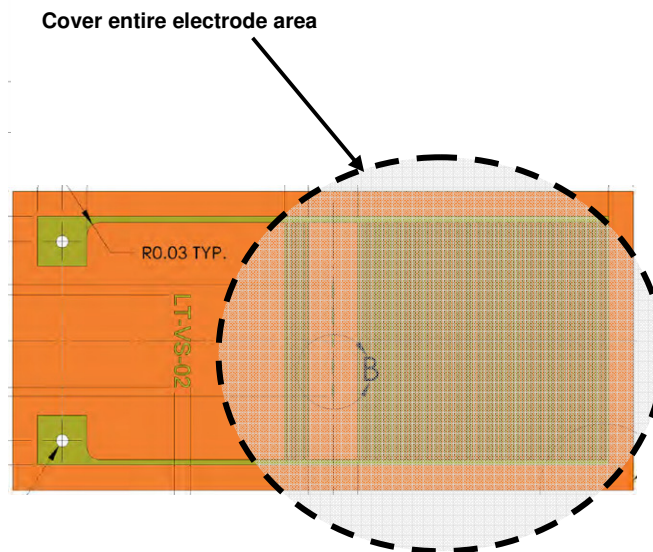

Figure 12-3
- Do place sample over entire electrode area, as shown in Figure 12-3